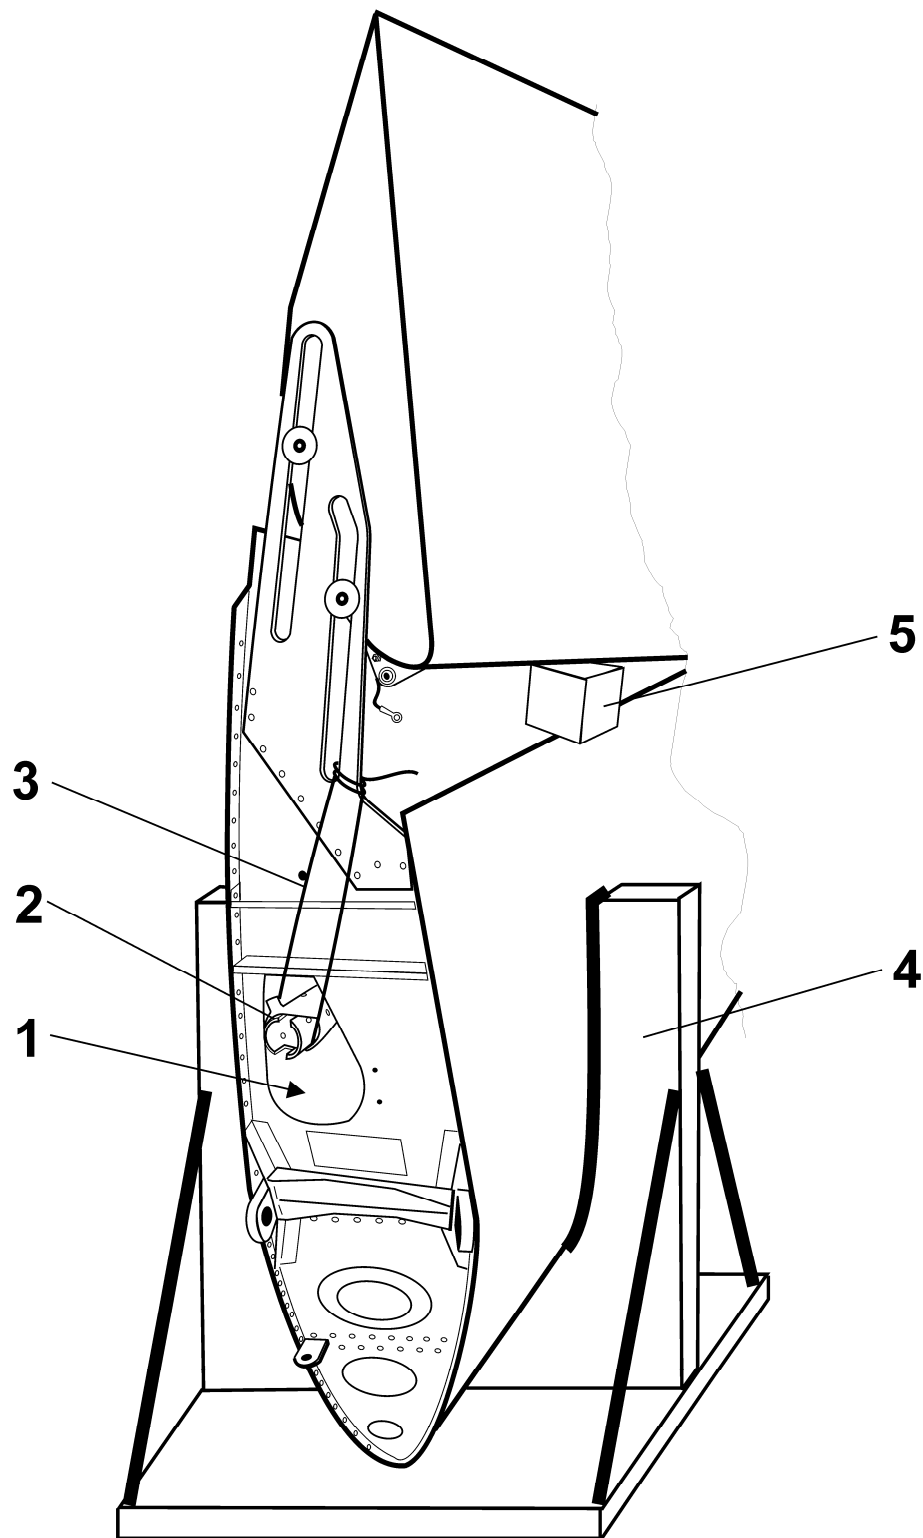

Fig. 3 - View of the prepared wing on the check
- see fig. 3.
- b. Pull the wing flaps to the max. extended position and secure the position with the suitable pads between the flaps leading edge and wing trailing edge - refer to the fig. 3.
Disconnect the wing flaps control rod at the rib No. 1 of wing flap, remove the overbridging. Fix the drive shaft of the wing and brake flaps using the binding wire - refer to the fig. 3.